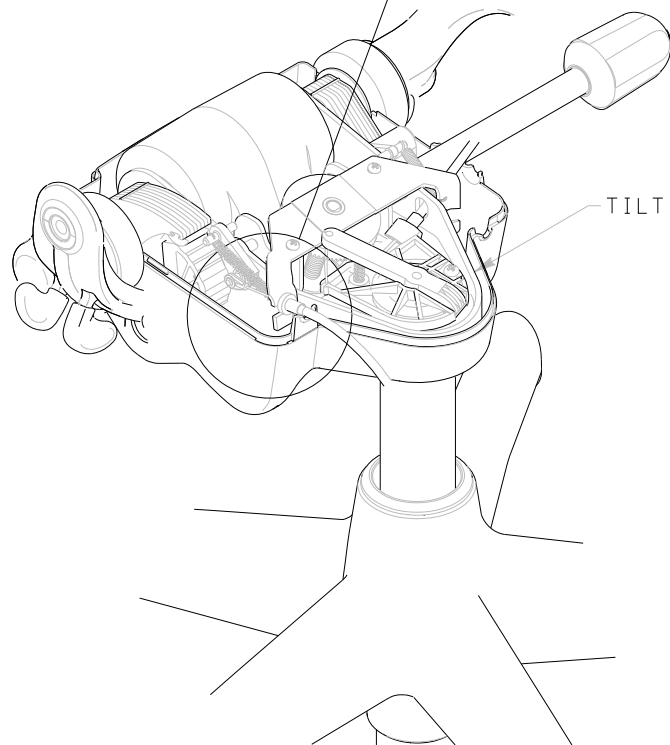

FIGURE 3
12. IF CHAIR IS EQUIPPED WITH TILT LIMITER, USE FINGER PRESSURE TO INSTALL CABLE FITTING INTO TENSION YOKE. SEE FIGURE 3.